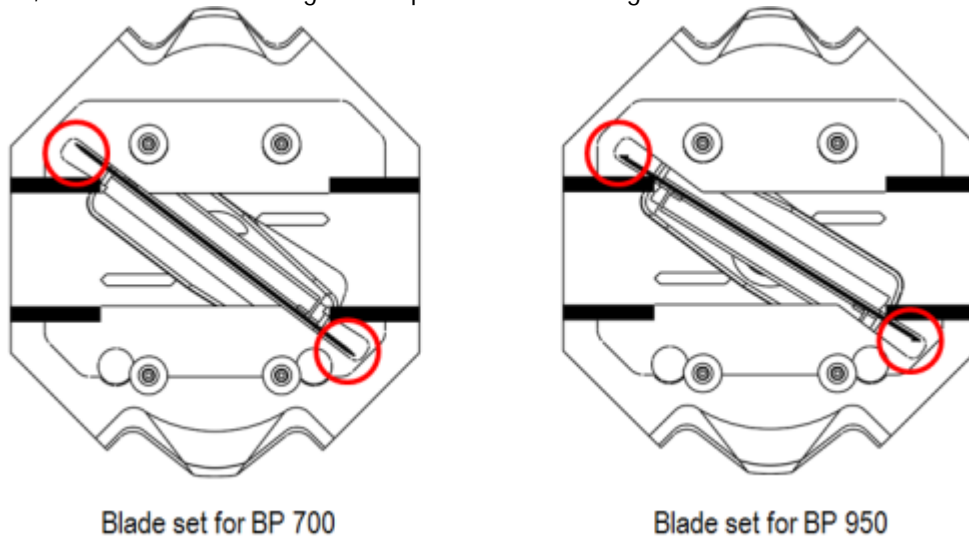

Figure 3.
2. Inspect the position of blade angle relative to the Profile Cutting Slot. When the blade angle is tilted more towards the Cutting Slot, it is set for miter cutting BP950 profile. When the blade angle is tilted away from the Cutting Slot, it is set for miter cutting BP700 profile. Refer to Figure 3.